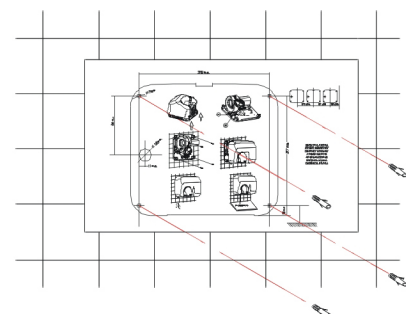

Fig. 6
1. Drill four \varnothing 8 mm (\varnothing 0.31") holes using the supplied template. Clean up the holes once they have been made. Insert the four plugs until they are flush with the surface (see figure 6).